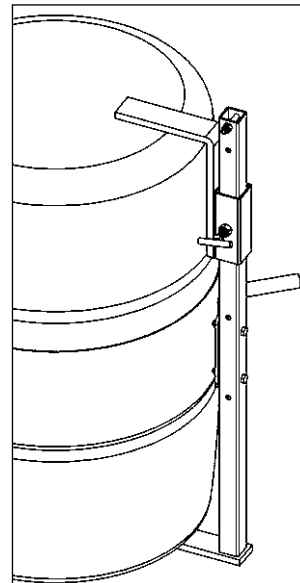

Figure 2.1
- The **Bracket Assembly** (Kit # 4556M-P) is **required** to handle a plastic drum without a top rim (see figure 2.1). It is also recommended to more securely handle a fiber drum. You can use the Bracket Assembly with a 55-gallon (210 liter) plastic, steel or fiber drum. The brace at top and bottom of the drum prevent it from slipping lengthways through the drum holder. It adjusts for a drum 31" to 39" (79 to 99 cm) tall.